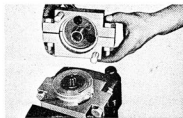

Fig. 4-16-9
- 5) Fig. 4-16-9 shows the disassembled crankshaft.
Remove the crank cover and bearing, by using a hand press. (Fig. 4-16-9)